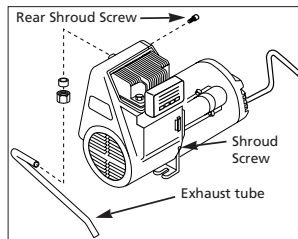

Figure 1 - Pump/Motor Assembly
2. Use 3/4" wrench to disconnect exhaust tube from compressor (See Figure 1).
4. Remove four (4) head bolts with 10 mm socket and ratchet. Lift head off unit and check for sticking gasket pieces. Carefully scrape pieces off making sure not to scratch deep grooves into head.